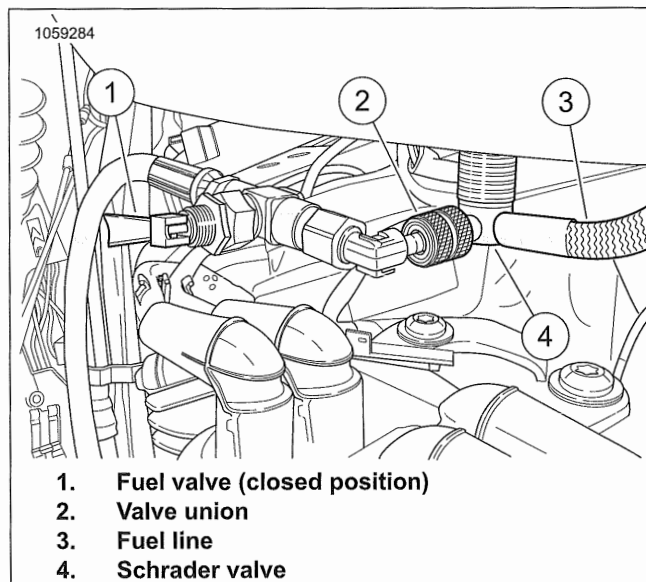

Figure 6-11. Fuel Pressure Test
1. See Figure 6-11. Attach valve union (2) on FUEL PRESSURE GAUGE (PART NUMBER: HD-41182) to schrader valve (4) on fuel line (3).
2. Close fuel valve (1).